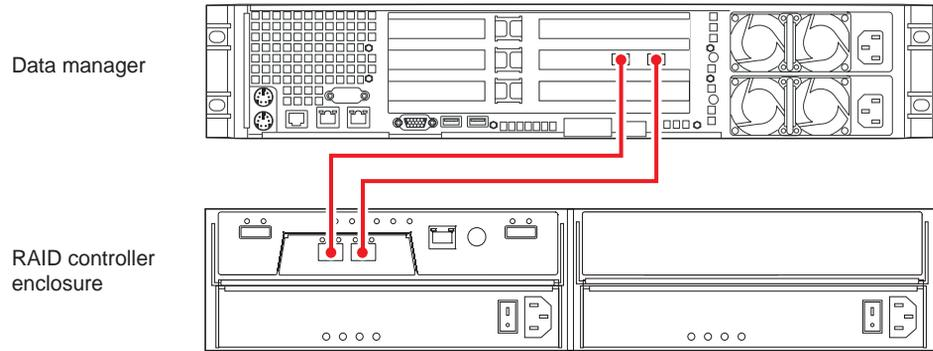

Figure 1-11 One Data Manager One Controller Enclosure (Single SATA RAID Controller)
Use the following steps and Figure 1-11 to cable a data manager to a single-controller SATA RAID enclosure.
1. Connect the Data Manager’s Fibre Channel PCI card port A to the RAID controller’s host 1 port in the controller enclosure, see Figure 1-11.